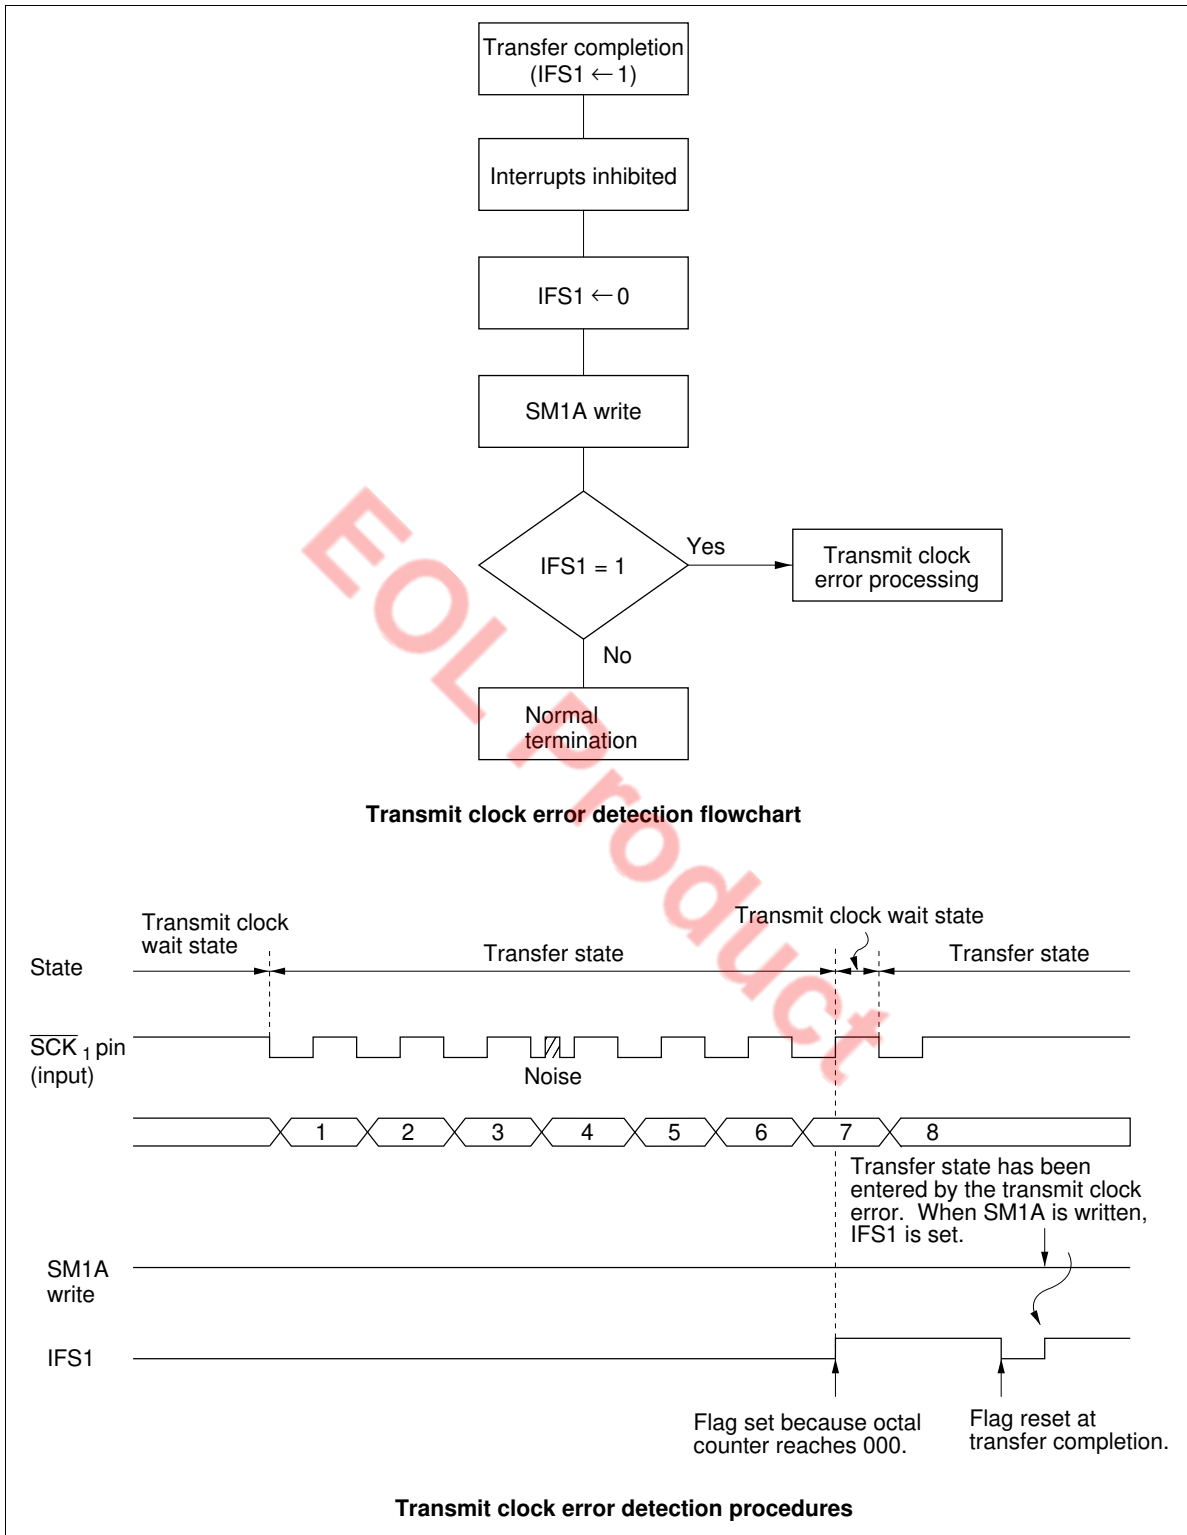

Figure 52 Transmit Clock Error Detection
**Transmit Clock Error Detection (In External Clock Mode):** The serial interface will malfunction if a spurious pulse caused by external noise conflicts with a normal transmit clock during transfer. A transmit clock error of this type can be detected as shown in figure 52.